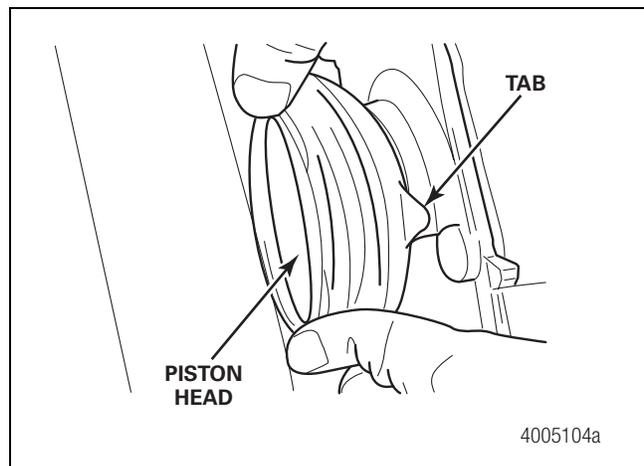

Figure 5.9
8. Carefully install a new piston boot over a piston head. The larger seal diameter with the tab goes over the piston head first. Do not install the piston boot bead into the housing assembly retaining groove at this time. Figure 5.9.